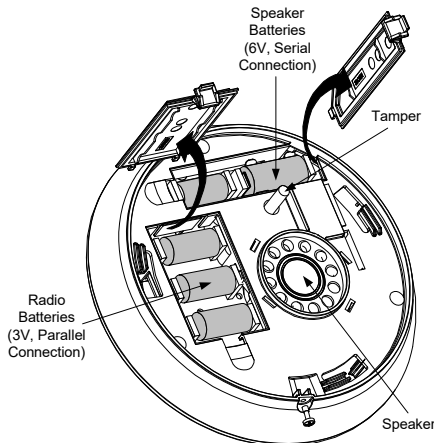

Fig. 3
5. Insert the supplied batteries into the battery chambers (speaker and radio) paying attention to the polarity (Fig 3).
4. Insert two speaker batteries into the batteries chamber (Fig. 3).
Power Supply	5 X CR123, 3V Lithium Battery (3 batteries for the Radio Transceiver, 2 batteries for the Speaker (see Fig. 3 on page 4)